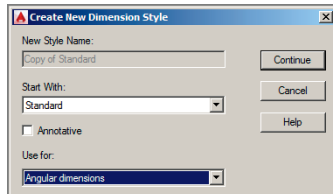

FIGURE 11.7 Creating a dimension sub-style for angular dimensions
6. Type **D** (for Dimension Style), and press Enter. The Dimension Style Manager reappears. Click the New button to open the Create New Dimension Style dialog box. Verify that Start With is set to Standard. Choose Angular Dimensions from the Use For drop-down (see Figure 11.7). Click Continue.